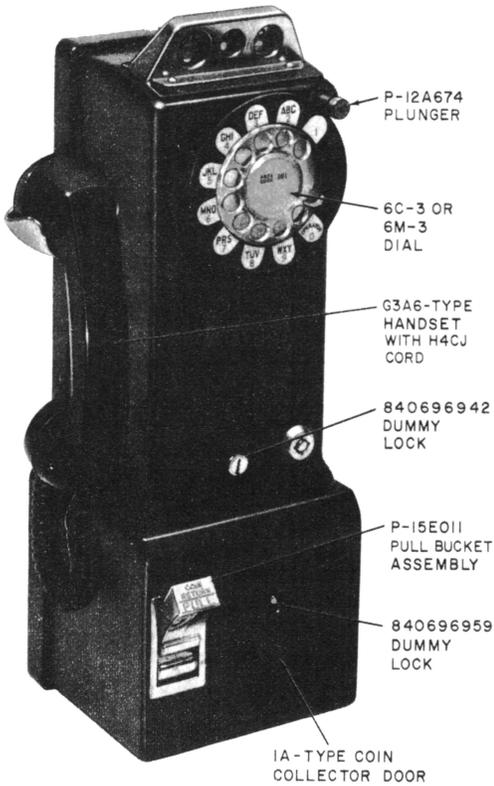

Fig. 1—D-180574 Coin Decorator Telephone Set
**1.01** This section contains identification, installation, maintenance, and connection information for the D-180574 Coin Decorator telephone set (Fig. 1).
**2.03** The handset with armored cord has been replaced with a G3A6-type handset with 6-foot retractable cord (Fig. 1).